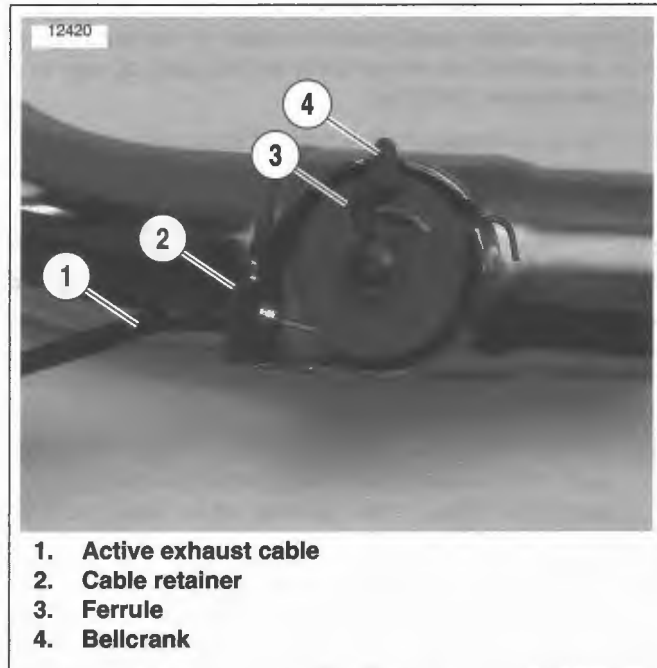

Figure 4-56. Bellcrank
- See Figure 4-56. On vehicles with active exhaust, remove active exhaust cable (1) from bellcrank (4).
- Remove cable retainer (2) from rear exhaust pipe.
- Disconnect ferrule (3) from bellcrank.
- Install **new** muffler clamps (3) to attach front (1) and rear (28) mufflers to exhaust pipes. Tighten clamps to 45-60 ft-lbs (61.0-81.3 Nm).
- Open muffler shield clamps (30) and install the muffler shields (29). Position clamps so the screws are on the outboard side in the most accessible position.
- Attach interconnect tube (26) to spacer studs (15) using locknuts (25). Tighten to 30-33 ft-lbs (40.7-44.7 Nm).
- See Figure 4-56. On vehicles with active exhaust, install active exhaust cable to bellcrank.
- Install ferrule (3) into slot as shown. Wrap cable around bellcrank (4).
- Clip cable retainer (2) on to rear exhaust pipe.
- See Figure 4-56. On vehicles with active exhaust, remove active exhaust cable from bellcrank.
- Disconnect ferrule (3) from bellcrank (4).
2. Position ends of exhaust pipes into front and rear cylinder head exhaust ports placing holes in exhaust manifold clamp (19) over cylinder head exhaust studs. Loosely thread on flange nuts (16).
3. Loosely install fasteners (24) to attach mufflers (1, 28) to interconnect tube assembly (26).
5. Tighten nuts (16) at cylinder studs as follows:
6. Open the muffler shield clamps (21) and install front and rear heat shields (9, 22).
7. See Figure 4-56. On vehicles with active exhaust, install active exhaust cable to bellcrank.
- a. Install ferrule (3) into slot as shown. Wrap cable around bellcrank (4).
- b. Clip cable retainer (2) on to rear exhaust pipe.